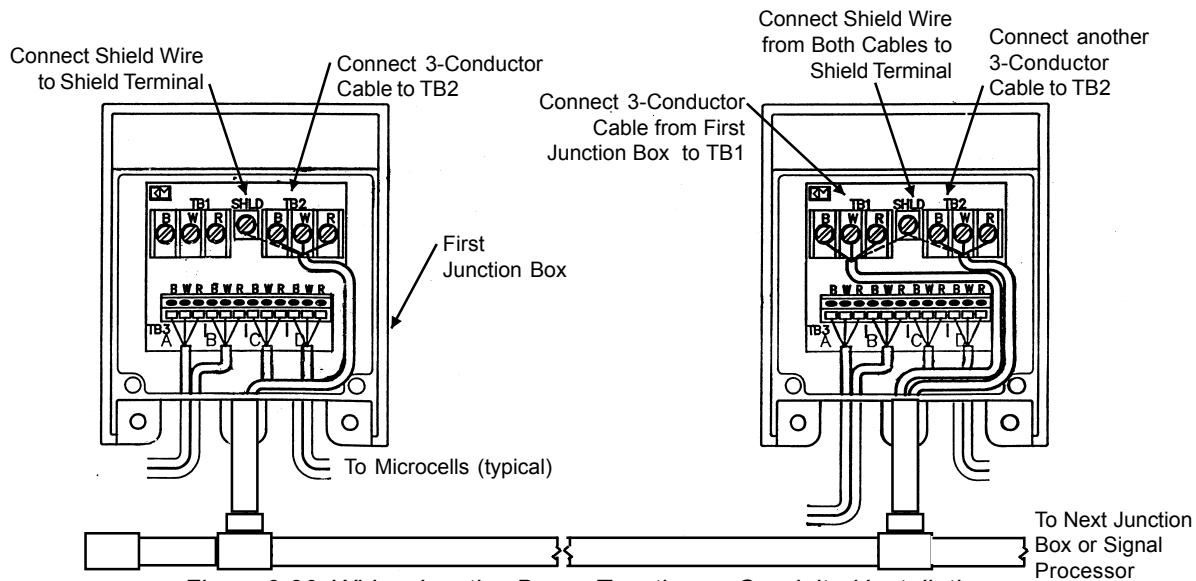
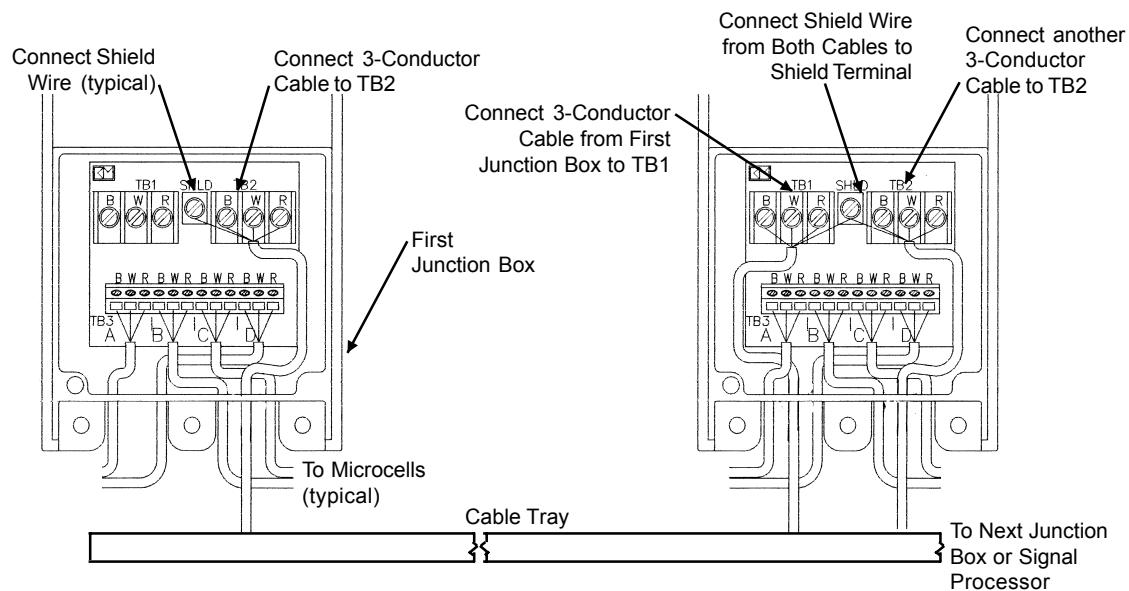

Figure 6-20. Wiring Junction Boxes Together—Conduited Installation
Figure 6-21. Wiring Junction Boxes Together—Non-Conduited Installation
2. See Figure 6-20 (conduited installation) or Figure 6-21 (non-conduited installation). Route the 3-conductor cable through the fitting into the junction box farthest from the signal processor. Connect wires from the cable to the TB2 terminal in the junction box: black wire to B terminal, white wire to W terminal, and red wire to R terminal. Connect the cable shield wire to the Shield terminal between TB1 and TB2.